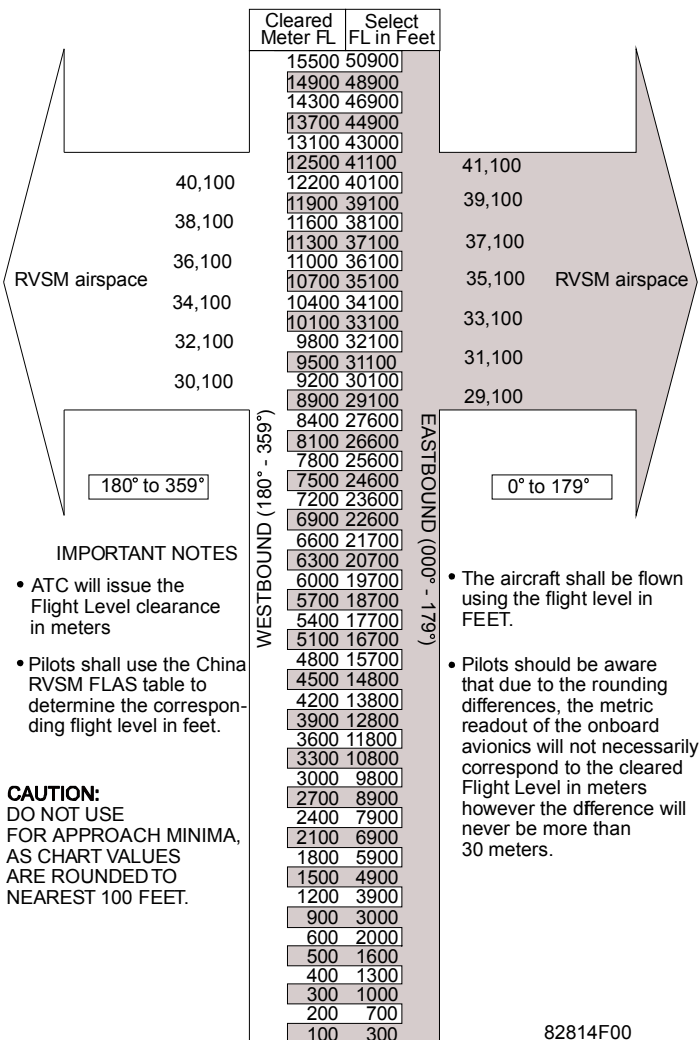

Figure 2
**Note:** This chart is not applicable in the People's Republic of China (PRC). For the PRC, see **Figure 2: China RVSM Flight Level Allocation Scheme (FLAS) Table**.